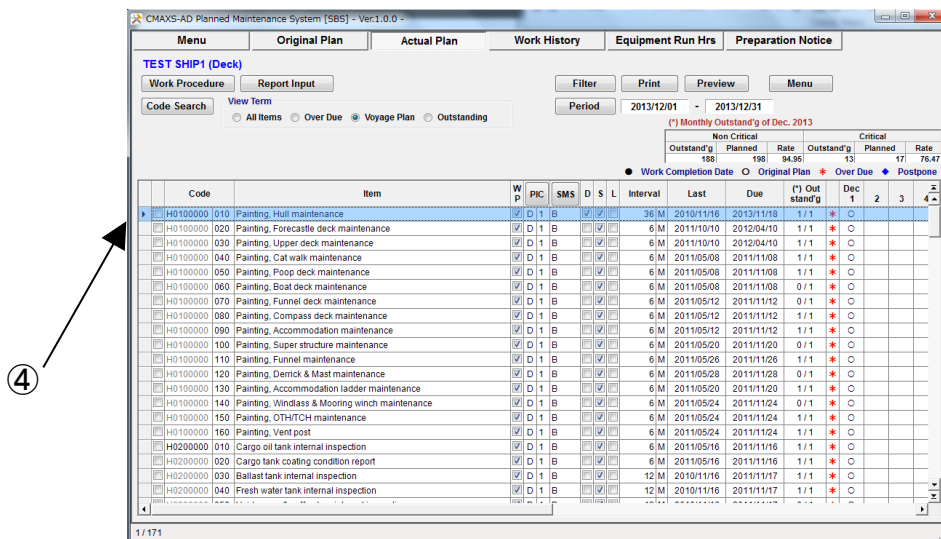

Fig.6-2 Actual Plan Screen
(2) "Actual Plan Screen"(Fig.6-2) is displayed.